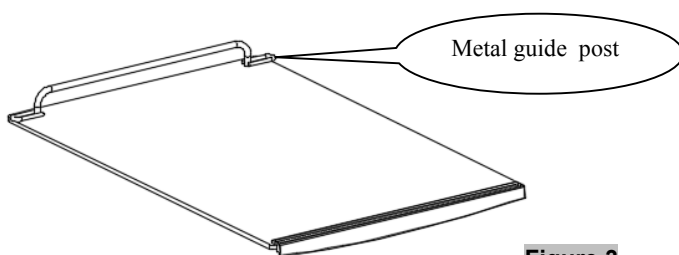

Figure 3
- Pull the shelf outward until it is removed from the inner compartment. You may encounter some resistance from the shelf guard rail. (figure 3)
- To remove the shelves of the rail, pull each shelf approximately 1/3 out. Use a long flat screwdriver to press down the right plastic notch as shown in Figure 3 and at the same time lift the left plastic notch as shown in Figure 4. Then proceed to pull out the shelf slowly. (figure 4)